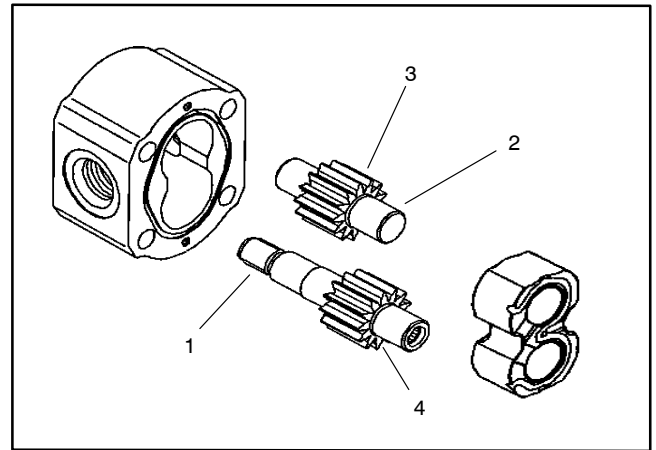

Figure 77
3. Inspect drive gears and idler gears for the following (Fig. 77):